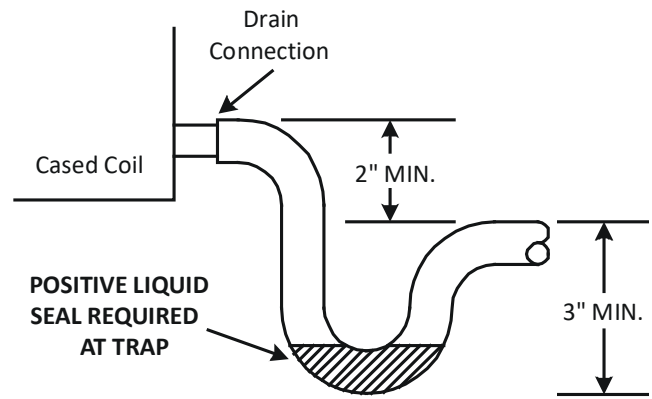

Figure 13
- The installation must include a "P" style trap that is located as close as is practical to the evaporator coil. See Figure 13 for details of a typical condensate line "P" trap.
NOTE: Units operating in high static pressure applications may require a deeper field constructed "P" style trap than is shown in Figure 13 to allow proper drainage and prevent condensate overflow.